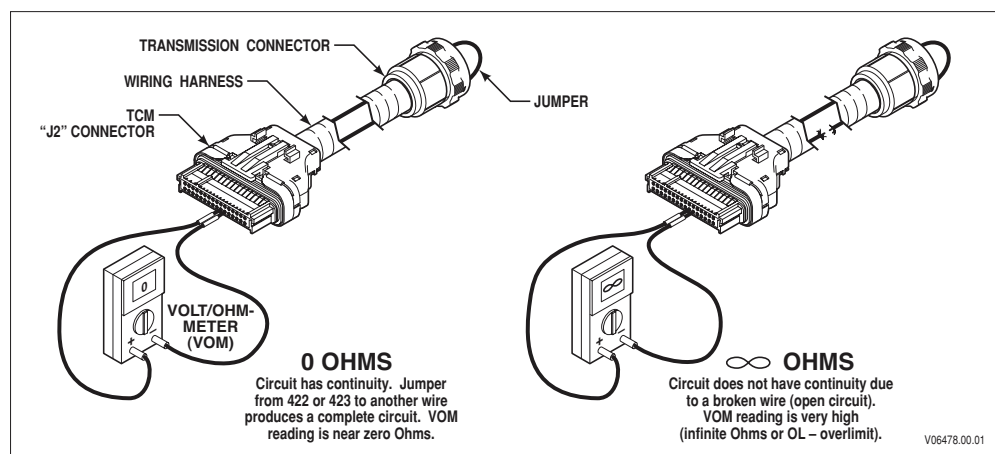

Figure 4-1. Checking Continuity (External Harness)
- a. Check continuity of wires 422 and 423 by performing the following (Figure 4-1):
- (1) Disconnect the red (J2) connector from the TCM and disconnect the harness from the transmission main connector. At one end of the harness, using jumper wire kit J 39197 and connector probes in J 39775-CP, connect wire 422 and 423 to each other, being careful not to distort the terminals. Jumping the wires together creates a circuit between wires 422 and 423.